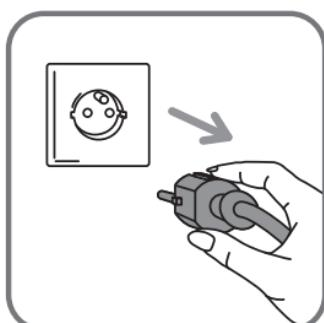

fig.2
- Before filling the water tank, unplug the iron fig.2.